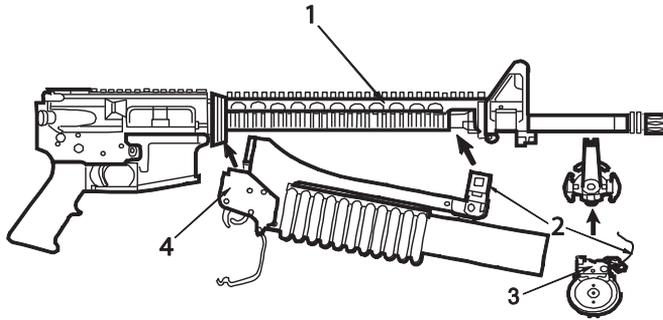

Figure 4. Rifle/QRB Installation.
2. **RIFLE:** Remove lower rail of adapter rail system from M16A3/A4 (Figure 4, Item 1). Ensure barrel stop is installed inside handguard cap. Move rear of M203 (Figure 4, Item 4) receiver into position around rifle barrel. Fully open latch arm (Figure 4, Item 2) of QRB (Figure 4, Item 3). Rotate muzzle end of M203 towards rifle barrel while sliding it firmly to the rear.